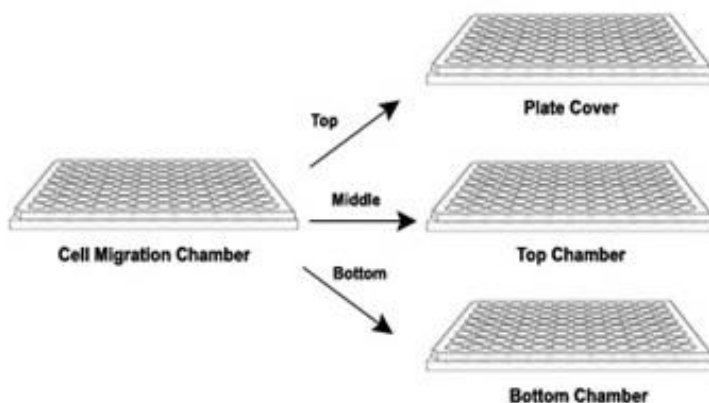

Figure 1. Cell Invasion plate: The cells are added to the Top Chamber and the Control Migration Inducer or chemoattractant are added to the Bottom Chamber.
9. Under sterile conditions, disassemble the Cell Migration Chamber, 24-Well (8 μm) and carefully remove the plate cover and the top chamber (figure 1).